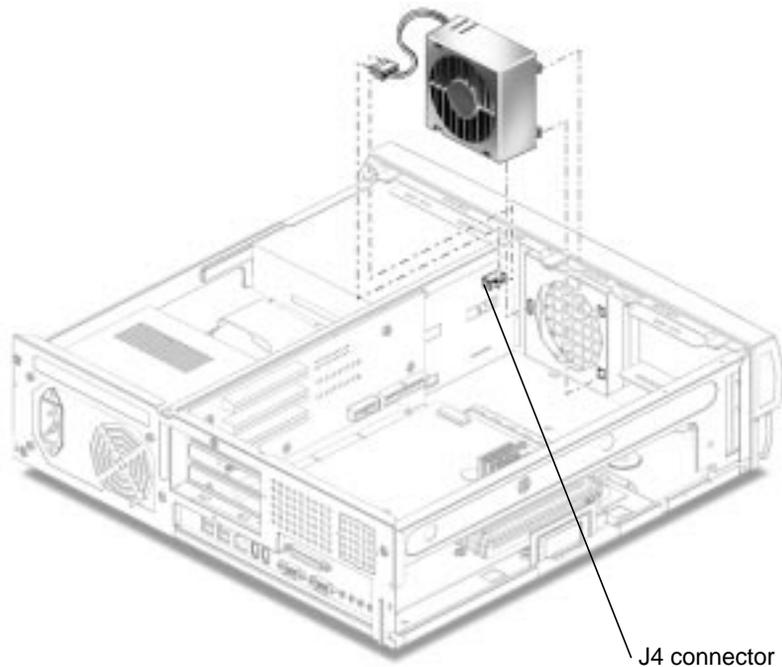

FIGURE 6-10 Removing and Replacing the Fan Assembly
3. Disconnect the fan assembly power cable connector from riser board connector J4 (FIGURE 6-10).
- 1. Position the fan assembly, ensuring that the fan retaining tabs are aligned with the chassis retaining slots (FIGURE 6-10).**